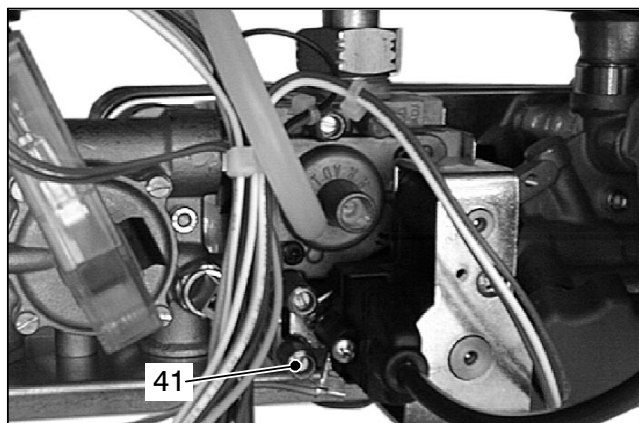

Fig. 7.5
- 2 Loosen the internal screw on the Inlet Pressure Test Point 41 (Fig. 7.5) of the Gas Valve and connect a pressure gauge using a suitable hose.
- 9 Disconnect the pressure gauge and close the Inlet Pressure Test Point 41 (Fig. 7.5).